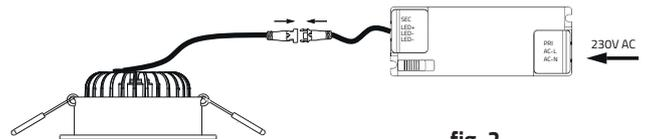

fig. 2
2. Connect the ELTROPA recessed downlight to the secondary side line of the converter using the connector supplied with the matching counterpart of the connector. Connect the existing 230 V AC mains voltage to the primary side of the converter (fig. 2).